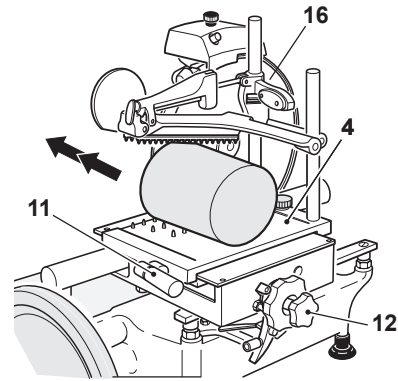

Figure 10-3
- Turn the product holder operating handwheel (12) counterclockwise or gently press down on the fast forward lever (11) to move the product holder (4) towards the knife (Figure 10-3.)